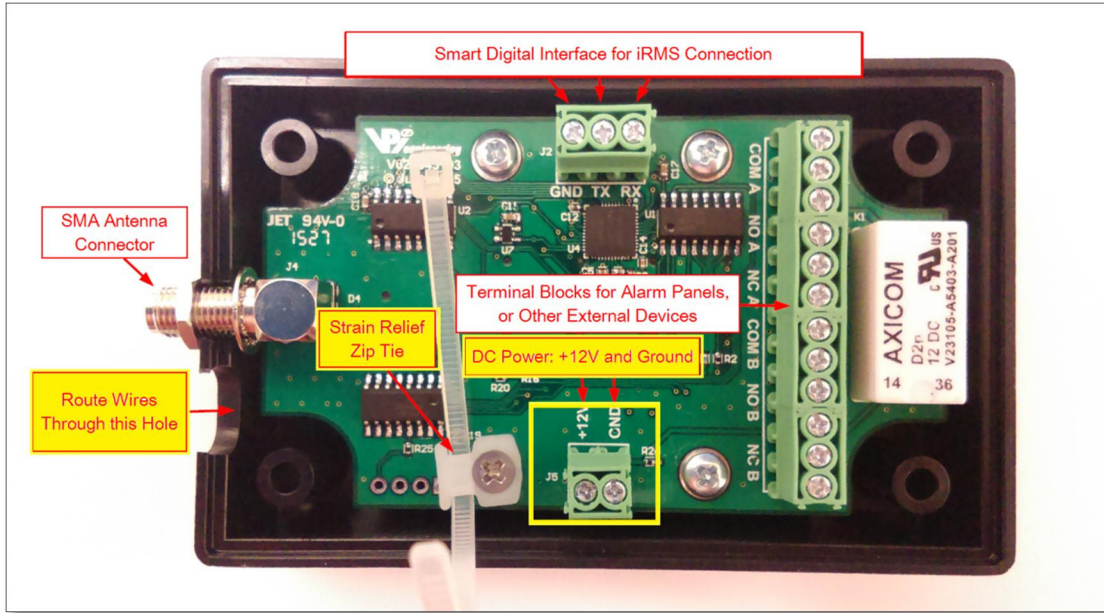

Figure 4 - Receiver PC board and terminal blocks
3. Connect +12 VDC wire and ground wire to Receiver's DC Power terminals. Run the wires across the Strain Relief Zip ties, and through the hole next to the SMA antenna connector (see yellow-highlighted boxes in Figure 4).